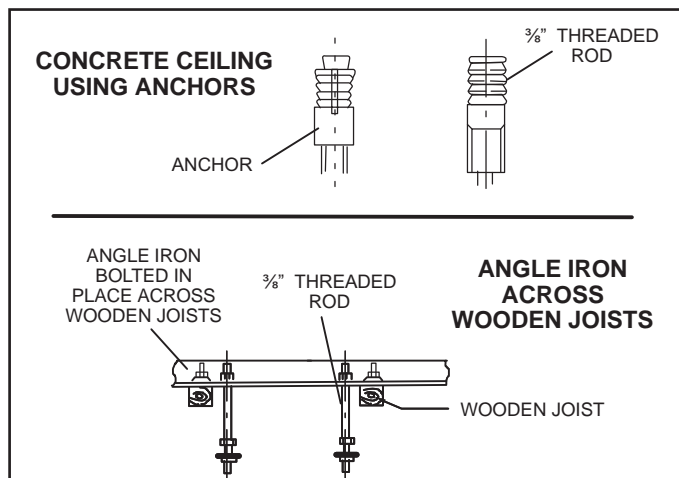

Figure 2. Suspending Methods
2. Install suspension rods in the structural ceiling or concrete slab in a suitable location. If the structural ceiling is constructed of concrete, install anchors to accept four $\frac{3}{8}$ " threaded rods to suspend the indoor unit. If the structural ceiling includes wooden joists, use angle iron or Unistrut channel fixed securely in place to accept the $\frac{3}{8}$ " threaded rods. **NOTE - Threaded rod (requirement of Lennox warranty program) is the ONLY acceptable method of suspending the unit; do not use chains or straps.** See figure 2.